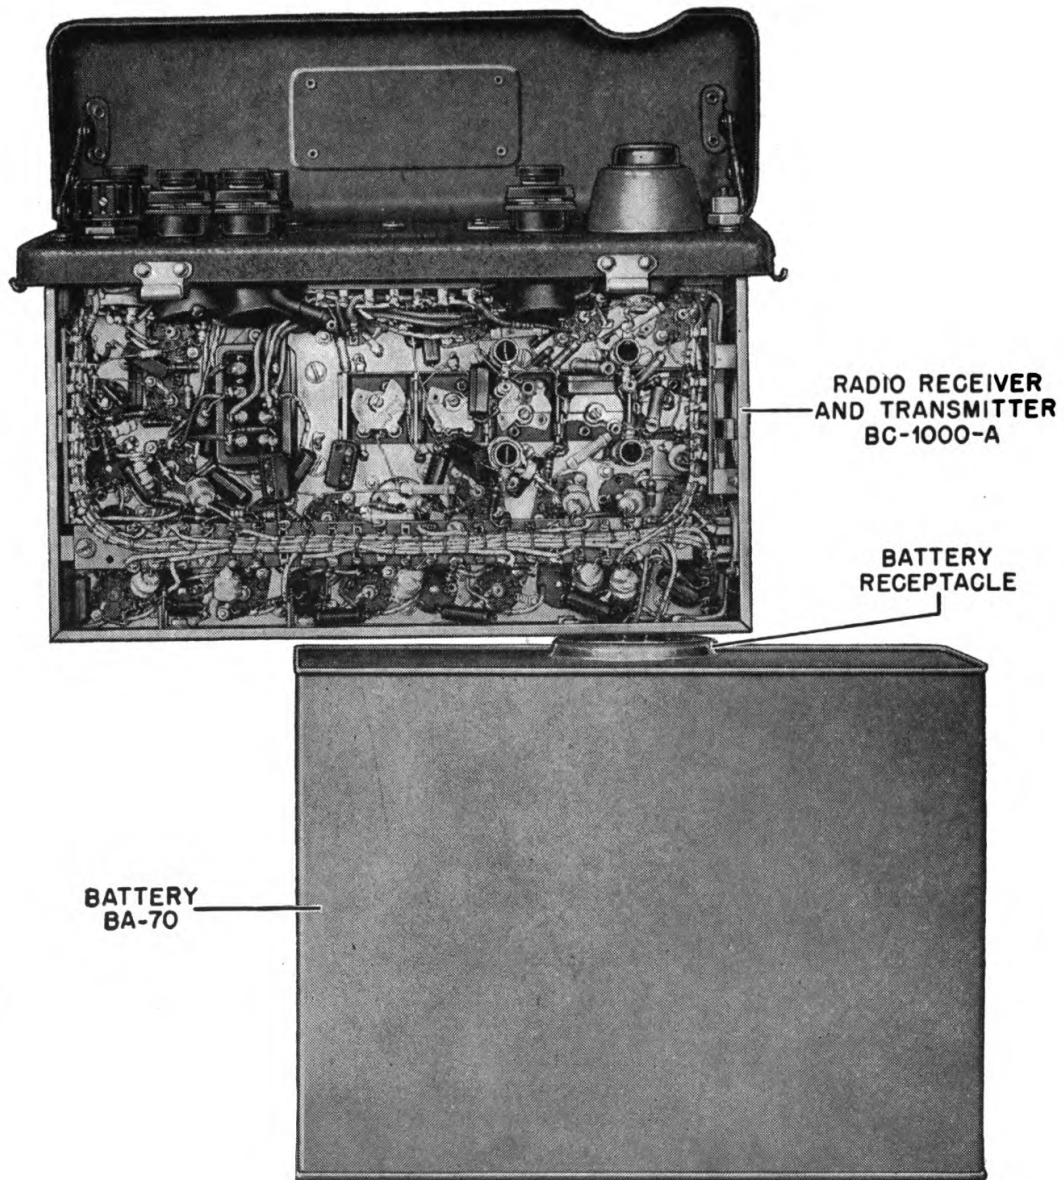
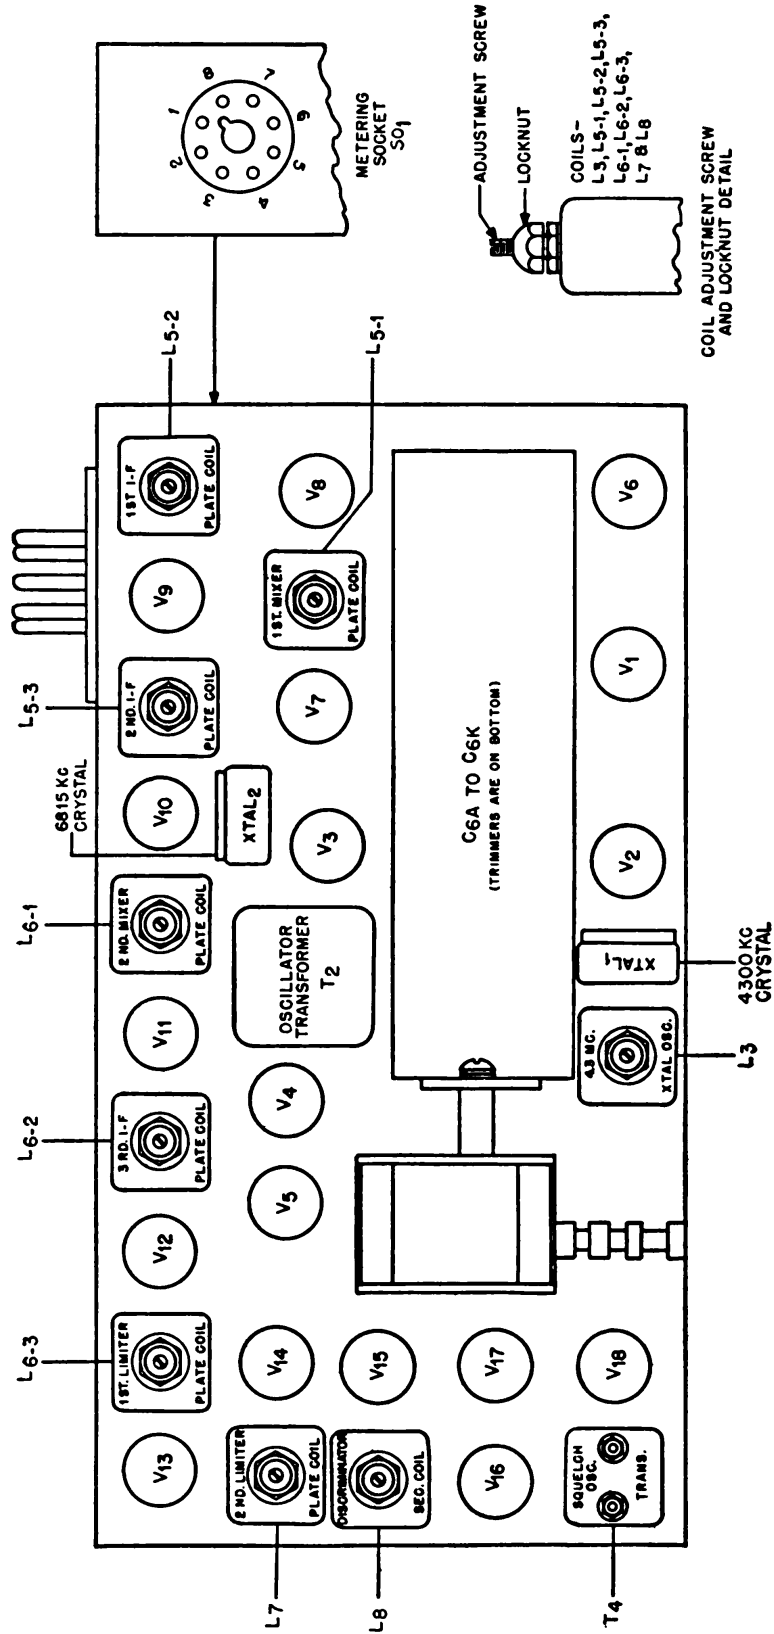

Figure 17. Method of Obtaining Power for Test Purposes.
Figure 19. Radio Receiver and Transmitter BC-1000-A, Alignment Instruction Detail, Top View.
*b.* To supply power to the set for test purposes while out of the case, plug the chassis directly into the battery receptacle, as shown in Figure 17.
(1) Connect a fresh Battery BA-70 to the radio chassis. The chassis may be plugged directly into Battery BA-70, as shown in Figure 17.
(2) Connect Handset TS-15-A to the MIC. and PHONE No. 1 jacks on the set front panel.
(3) Turn on the 4.3 megacycle signal generator and allow it to warm up for at least 15 minutes.
(4) Turn the set *on* by means of the VOLUME control knob. Allow the set to warm up for at least ten minutes.
(5) Loosen the adjustment locknuts on coils L3, L5-1, L5-2, L5-3, L6-1, L6-2, L6-3, L7 and L8. (See Figure 19 for all adjustment locations.) Loosen just enough to allow adjustment of screw.
(See Figure 19 and 20 for all adjustment locations.)